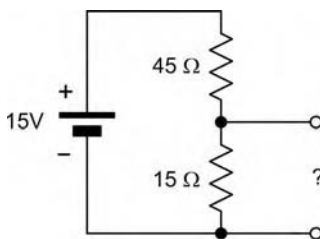

Figure 5.211
35. Which one of the following gives the output voltage produced by the circuit shown in Figure 5.211?